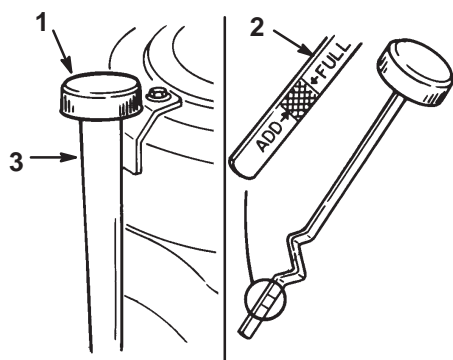

Figure 25
2. Clean around the oil dipstick (Fig. 25) so dirt cannot fall into the filler hole and damage the engine.
3. Unscrew the oil dipstick and wipe the metal end clean (Fig. 25).
4. Slide the oil dipstick fully into the filler tube, do not thread onto tube (Fig. 25). Pull the dipstick out and look at the metal end. If oil level is low, slowly pour only enough oil into the filler tube to raise the level to the "FULL" mark.
5. Slowly pour approximately 80% of the specified amount of oil specified, page 28, into the filler tube (Fig. 25). Now check the oil level; refer to Checking Oil Level, page 29. Slowly add additional oil to bring to "FULL" mark on dipstick.